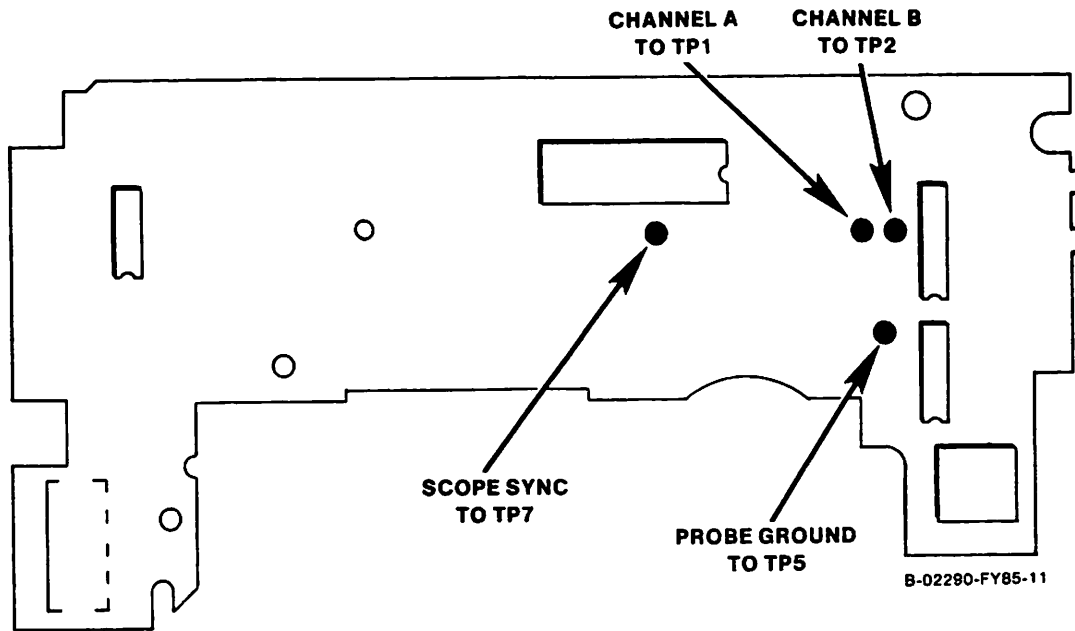

Figure J-6. Index/Sector Test Point Locations
- 1) Set up the oscilloscope as follows (figure J-6):